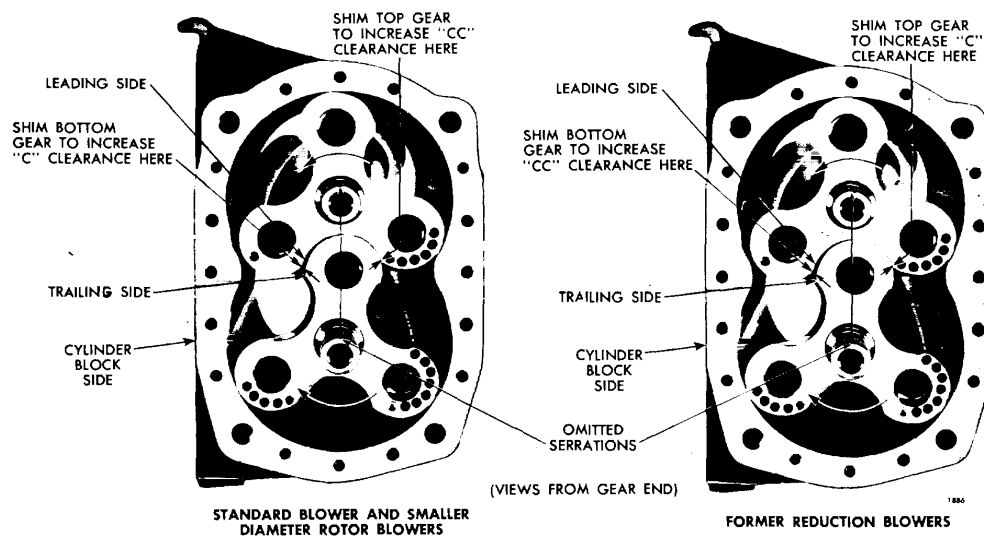

Fig. 28. Diagram Showing Proper Location of Shims for Correct Rotor Lobe Clearances
- b. Rotate the rotors to bring the omitted serrations on the shafts in alignment and facing the top of blower housing (Fig. 28).
**NOTE:** When rebuilding a blower with new rotors or new gears, first install the gears on the rotor shafts without the shims, then check clearances between rotors to determine location and thickness of shims to be used (Fig. 28).
- b. Rotate rotors to bring omitted serrations on the shaft in alignment and facing the top of the blower housing (Fig. 28).
- NOTE:** When rebuilding a blower with new rotors or new gears, first install the gears on the rotor shafts without the shims, then check the clearances between the rotors to determine the location and thickness of shims to be used; refer to Fig. 28.
2. After determining the amount one rotor must be revolved to obtain the proper clearance, add shims back of the proper gear as shown in Fig. 28 to produce the desired result. When more or less shims are required, both gears must be removed from the rotors. Placing a .003" shim in back of a rotor gear will revolve the rotor .001".